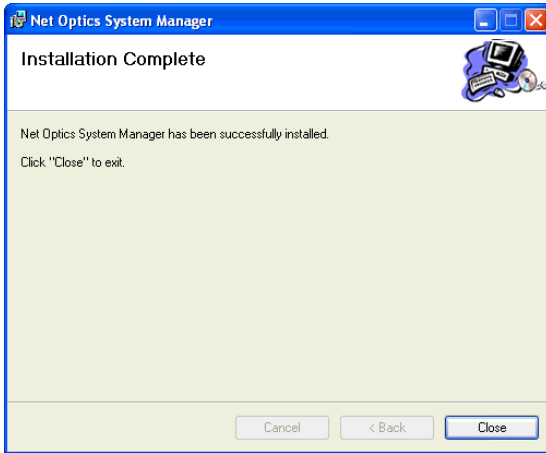

Figure 21: Installation Complete
6. If you want to stop the installation, click **Cancel**. When the installation is complete, the Installation Complete dialog box appears as shown in Figure 21.